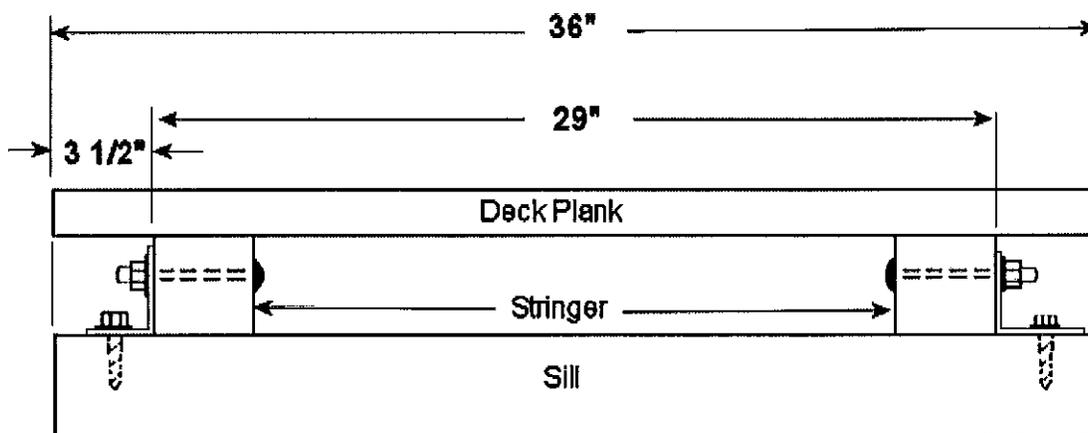

Figure 5 – ACQ/FRP Lumber Sill Assembly Detail
**Lumber Sills** - Experience has shown that nailing the end of the stringer to the sills, either by nail toeing or driving spikes vertically through the stringer, stresses the wood and may cause a cracked stringer at the time of assembly or later from the stress of use and environmental effects due to the rigidity of the attachment. Stringers bolted to a metal bracket provide a more flexible attachment for stringer deflection. Figure 5 shows an end view of the attachment of the boardwalk stringers to the lumber sill.